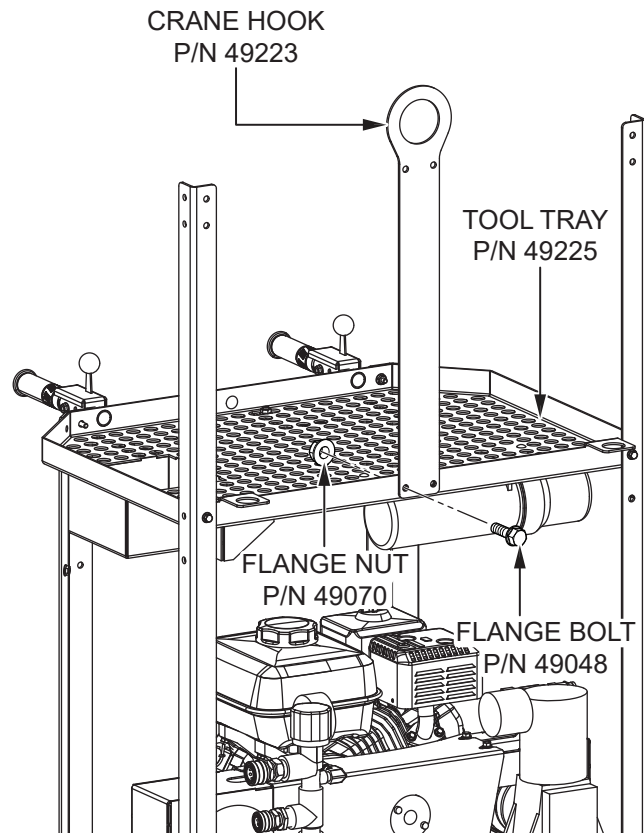

Figure 9. Crane Hook Installation
- Secure the crane hook (P/N 49223) to the tool tray (P/N 49225) with two 1/4-20 x 3/4" flange bolts (P/N 49048) and two 1/4-20 flange nuts (P/N 49070). See Figure 9.